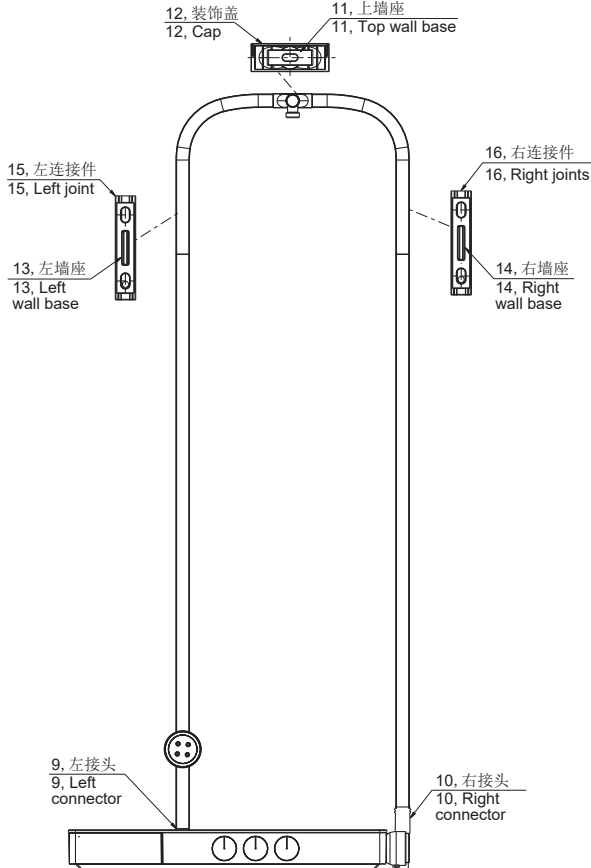

Fig.2
2. As Fig.2 shown, insert the whole shower column onto the left and right connectors(9, 10) of the body, and then mark the location and dimensions of the wall bases with a pencil.
A. The hole center point of the top wall base(11) is located at the cap(12) center.